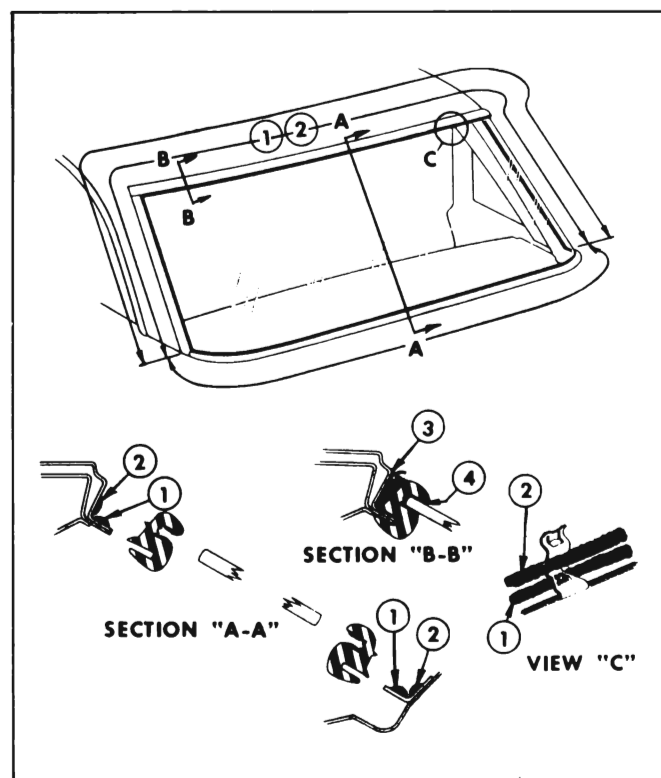

Figure 13-71—Back Window Sealing
Locations of back window reveal molding retaining clips are shown in Figure 13-71.
3. Prior to installing any reveal molding clips apply a continuous ribbon of medium-bodied sealer (approximately 1/4 inch thick) along the pinchweld and retaining flange, as indicated at "1" in Section "A-A", Figure 13-71, completely around opening.
4. Apply a second continuous ribbon of medium-bodied sealer (approximately 1/4 inch thick) along the outer wall of the back window opening, as indicated at "2" in Section "A-A", Figure 13-71, completely around opening.
7. On 4119 styles apply sufficient medium-bodied sealer to fill the void between rubber channel and body opening up sides and across top of window, as indicated at "3" in Section "B-B", Figure 13-71.
8. Using a pressure type applicator apply an approved weatherstrip adhesive between outer lip of rubber channel and glass, as indicated at "4" in Section "B-B", Figure 13-71, completely around rubber channel.